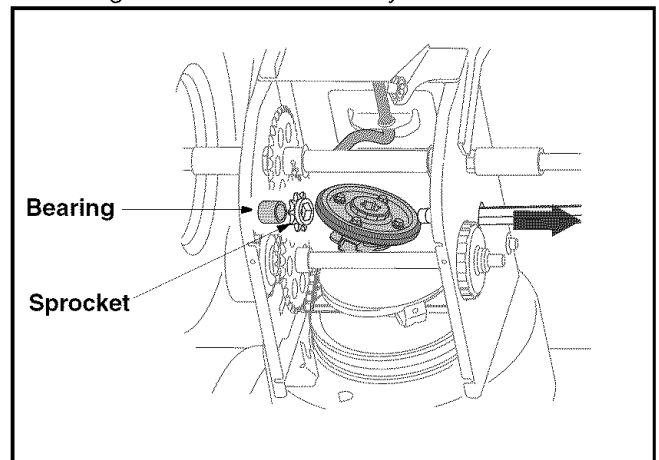

Figure 26
- Holding the friction wheel assembly, slide the hex gear shaft to the right. See Figure 26. The spacer on right side of hex shaft may fall.